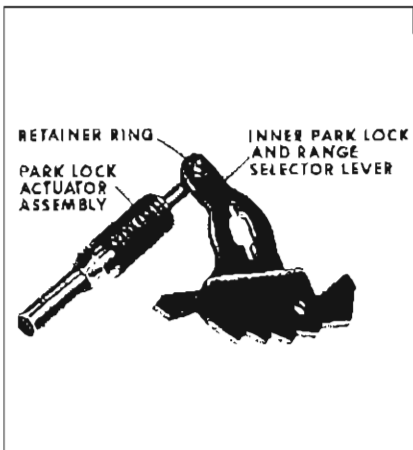

Figure 5-280
5. Assemble park lock actuator assembly to inner park lock and range selector. See Figure 5-280.